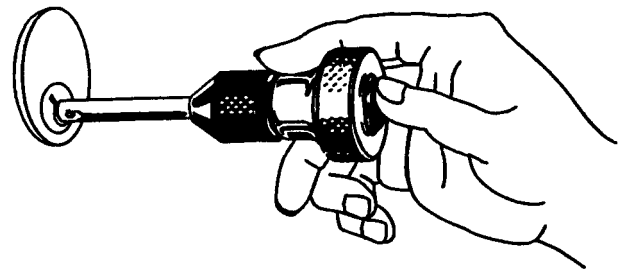
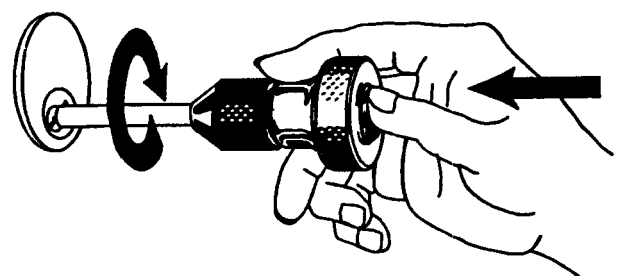

Fig. 6
Fig. 7
3. Holding the **Flip-It** tool as in Fig.6, insert the tip of the **Flip-It** into the keyway of the plug, holding the **Flip-It** steady and push the black button with your thumb (see Fig.7).